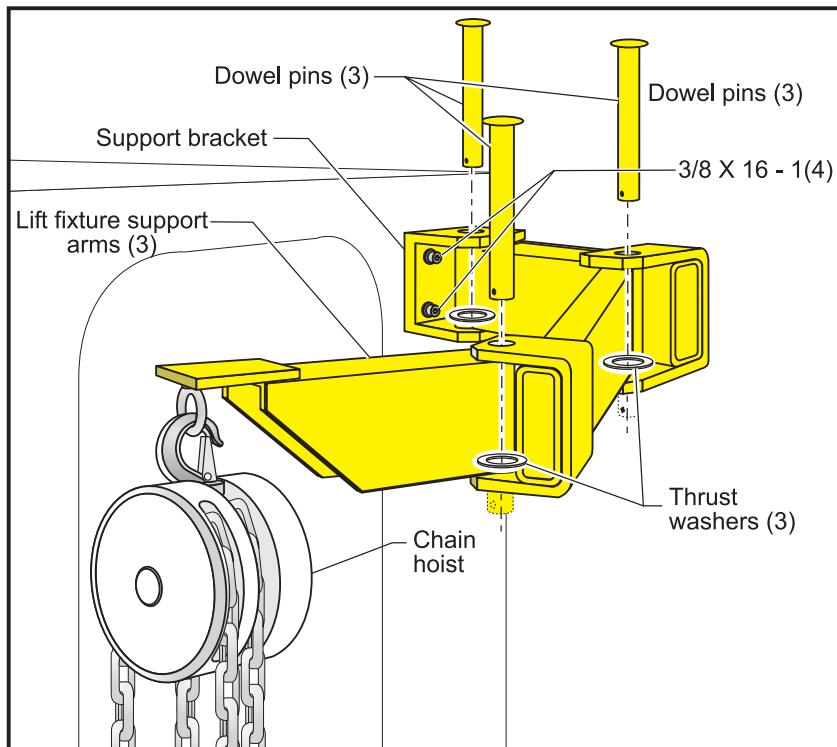

Figure 3.7-2 Transmission removal fixture and chain hoist.
16. Assemble the support arms (3) of the transmission removal fixture by placing a thrust washer at the bottom of each joint and inserting the dowel pins from the top side (Figure 3.7-2). Grease the joints to ensure smooth arm movement.